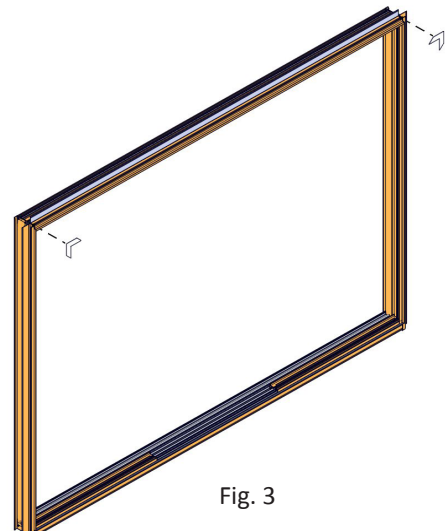

Fig. 3
3. Peel backing off the corner gaskets and apply them to the exterior side of the nail fin at each corner. (Fig. 3)